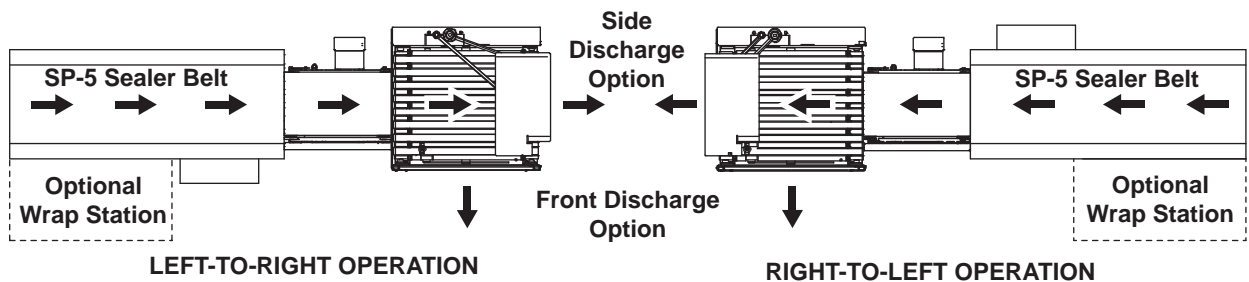

Fig. 2
The CLAS can be ordered in a left-to-right or right-to-left operation (Fig. 2). The package discharge can be configured in the Access PrePack System for side or front discharge from the CLAS platform. The operator works from the same side of the machine in either configuration.
- Place the wrapped package on the SP-5 Sealer Belt (Fig. 2).